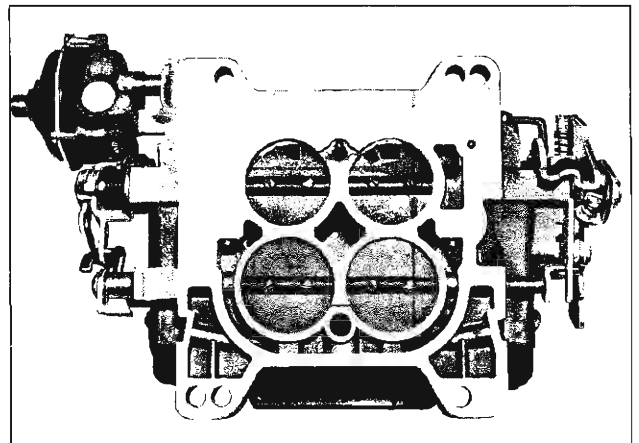

Fig. 86—Throttle Valve Position
4. Install throttle valves in shafts with part number identification toward bottom of flange and secure with new screws (fig. 86).